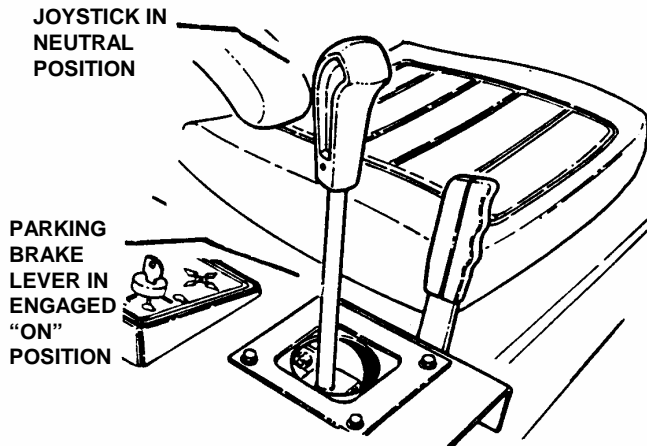

FIGURE 2.8
1. Engage parking brake by pulling the parking brake lever back to the "ON" position. See Figure 2.8.